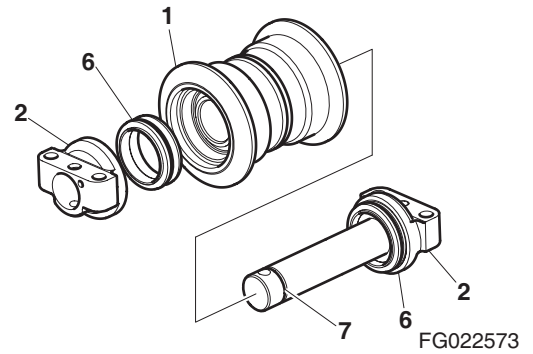

Figure 30
4. Remove O-rings (7, Figure 30) from the axle.
5. Separate floating seals (6, Figure 30) from the collar and roller (1).
6. Remove collar (2, Figure 30) and O-rings (7) from the axle, using press.